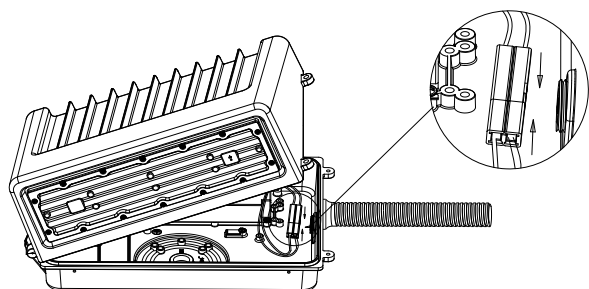

Fig. 2-4A
4. Connect the quick connect terminal, then screw the fixture with bottom plate. (Fig. 2-4A & 2-4B)